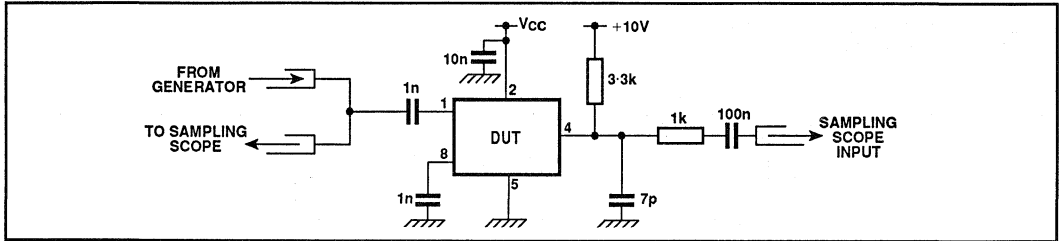

Fig. 5 Test circuit
- In the test configuration of Fig. 5, the output rise time is approximately 20ns and the fall time is typically 10ns.